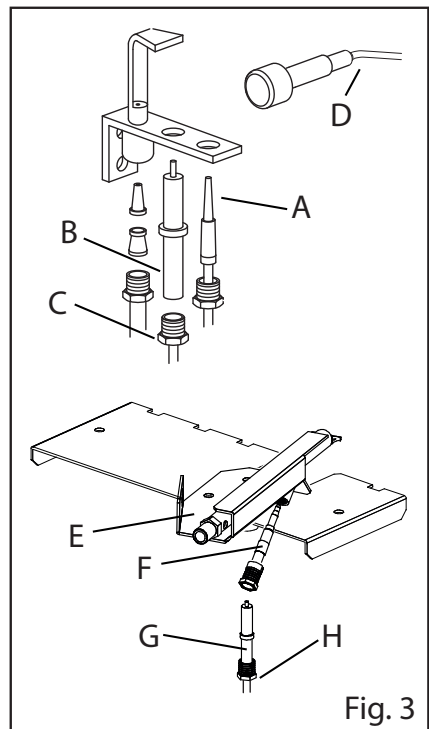

Fig. 3
- Unscrew the injector (Fig. 3)
- Unscrew the pilot body (only for models 980 - Fig. 3/E)
- Unscrew the thermocouple from the pilot (Fig. 3/A for 700 - Fig. 3/F for 980)
Unscrew the pilot body (only for models 980 - Fig. 3/E)
- Disconnect the high voltage cable of the plug (Fig. 3/B for 700 - Fig. 3/G for 980)
- Unscrew the nut (Fig. 3/C for 700 - Fig. 3/H for 980)
- Connect the high voltage cable (Fig. 3/B for 700 - Fig. 3/G for 980)
- Disconnect the cable from the piezoelectric igniter (Fig. 3/D)